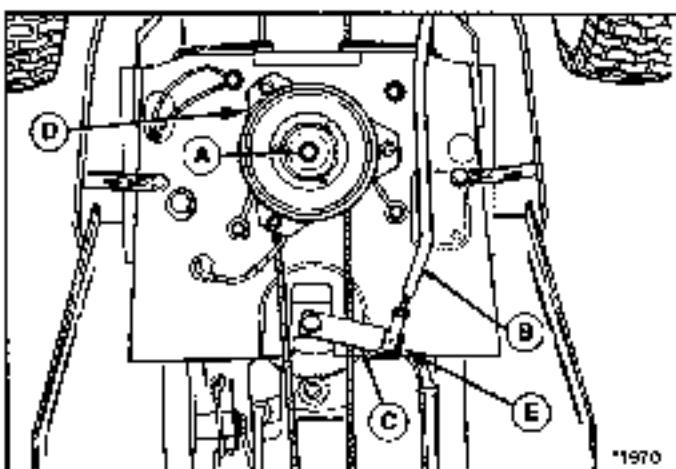

Figure 35. Drive Belt PTO Pulley
- See figure 35. To remove belt from engine pulley, the PTO (electric clutch) must be removed and the belt slid over the top of the pulley. Disconnect the PTO wire. Remove the capscrew (A) along with the hex washer and lockwasher securing the PTO to the engine crankshaft. Slide belt over the top of the engine pulley.
- See figure 35. Install new belt over engine pulley before re-installing the electric clutch. Install hex washer, lockwasher and capscrew (A). Lubricate weld tab on underside of tractor (D). Make sure tab is aligned with hole in top of electric clutch, then tighten capscrew to 45-50 ft. lbs. (61-68 N.m.).
- See figure 35. On left-hand side of tractor, remove nut from capscrew (E) securing drag link (B) to steering arm (C). Drop old belt below drag link. Route new belt above drag link before re-installing nut on drag link, then tighten nut.